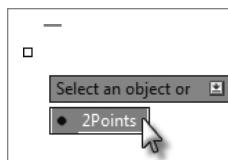

FIGURE 5.52 Selecting the 2Point option using Dynamic Input
4. From the Select an object or [2Points] prompt, press the down-arrow to select 2Points, as shown in Figure 5.52.